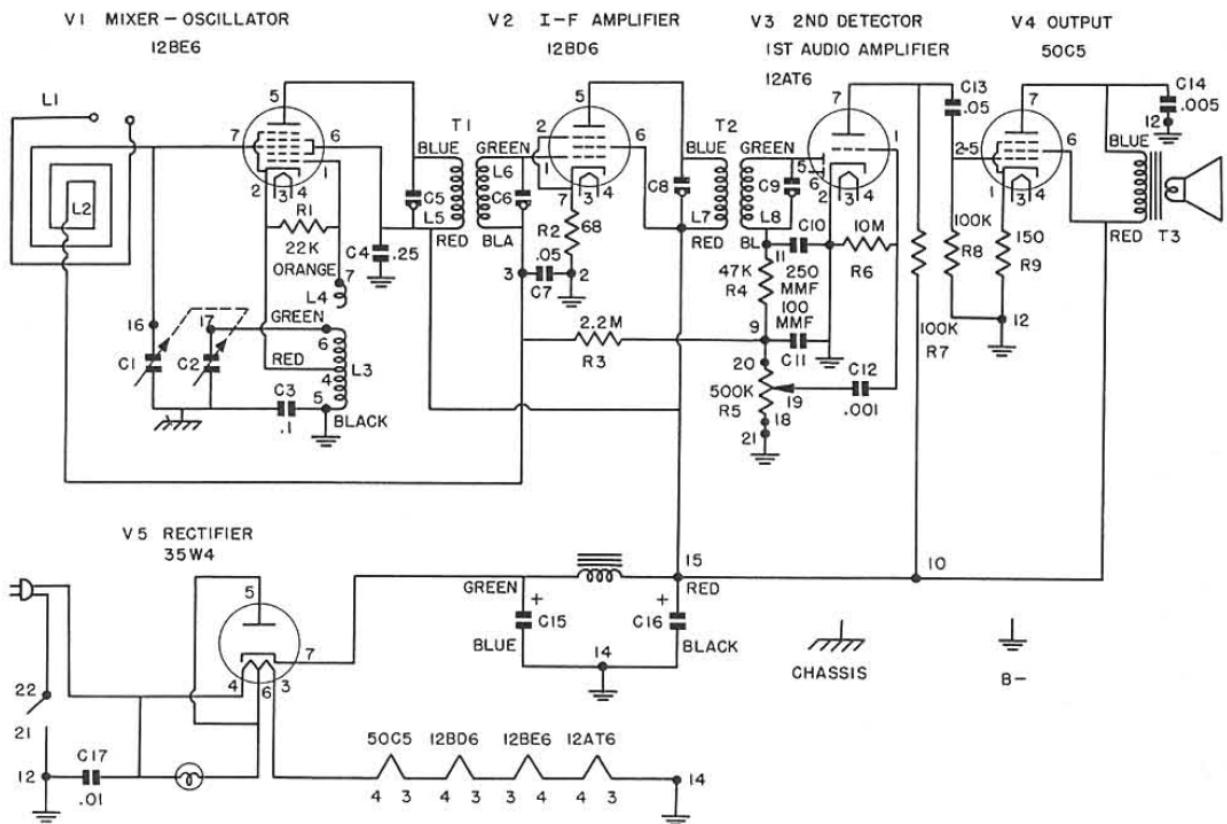

Fig. 3 - Schematic diagram of a typical AC-DC radio receiver.
The schematic diagram of a typical AC-DC receiver is shown in Fig. 3. The correct procedure for measuring the voltages in the 50C5 tube is outlined below:
(4) Plug the receiver into a power line outlet, turn the set on, and allow about thirty seconds for the tubes to reach operating temperature.
(5) To measure the plate voltage on the 50C5 tube socket, refer to Fig. 3. You will see that the plate is pin 7. Holding the probe by the insulated handle, touch the probe tip to socket pin 7. The meter will indicate the amount of voltage on the plate.
(6) Measure the screen grid voltage on the 50C5 tube by moving the probe tip to pin 6 of the tube socket. Leave the ground clip connected to the set side of the On-Off switch.
(7) The next DC voltage that you would measure is the bias voltage. In most AC-DC sets, you can find the bias voltage by measuring the voltage across the cathode resistor. If you were servicing the receiver shown in Fig. 3, you would leave the ground lead connected to B-, and touch the probe to pin 1 of the 50C5 tube socket. Since the voltage will be considerably less than the screen voltage, you will have to change the Range Switch setting.
Switch the Function Switch to the -DC position and measure the AVC voltage. You can measure the AVC voltage at terminal 3 in Fig. 3. Since this voltage will be a small negative value, switch the Range Switch to a low range. You will have to tune in a station on the receiver to get an appreciable reading. Notice that you can get maximum AVC voltage when the set is tuned exactly to the station. Also notice that strong stations produce more AVC voltage than weak stations.
To measure AC power supply and filament voltages, you connect the meter test leads directly across the line cord leads, or between the filament pins of each tube socket. For example, you would measure between pins 3 and 4 of any of the tubes in the set shown in Fig. 3. Hold the clip by the insulated handle and touch it to one of the tube socket pins connected to the tube filament. Then, touch the probe to the other tube socket pin. Be sure the Range Switch is on the proper setting.
Let us see how to check one section of the 20-20 μ F electrolytic capacitor in the filter circuit in Fig. 3.